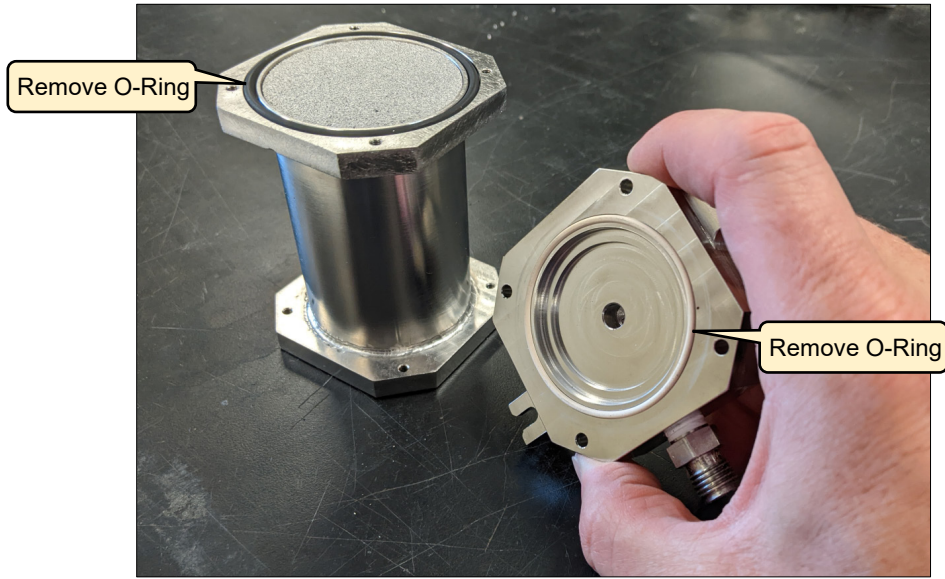

Figure 52: Bottom Cover and O-ring Removal
6. Remove the bottom cover and remove the two O-rings shown (Figure 52).